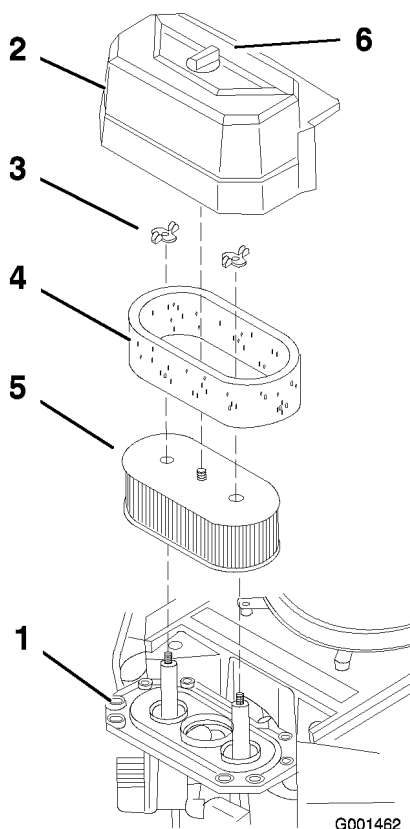

Figure 31
3. Clean around the air cleaner to prevent dirt from getting into the engine and causing damage (Figure 31).
4. Unscrew the cover knob and remove the air cleaner cover (Figure 31).
- Remove the 2 wing nuts and remove the air cleaner assembly (Figure 31).
- Carefully pull the foam element off the paper element (Figure 31).
- Do not clean the paper filter. Replace it after 200 operating hours (Figure 31).
- Carefully slide the foam element onto the paper air cleaner element (Figure 31).
- Place the air cleaner assembly onto the air cleaner base and secure it with the 2 wing nuts (Figure 31).
- Place the air cleaner cover into position and tighten the cover knob (Figure 31).